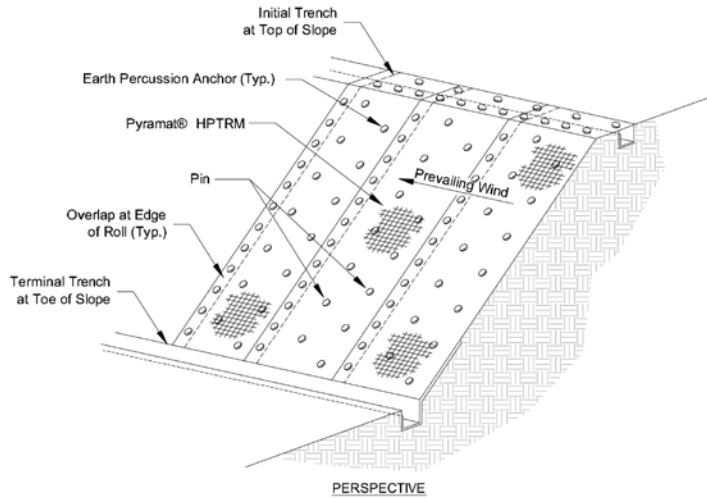

FIGURE 1: OVERVIEW OF ARMORMAX® SYSTEM ON SLOPE
- Figure 1 shows general installation layout and details for ArmorMax™ on a slope.